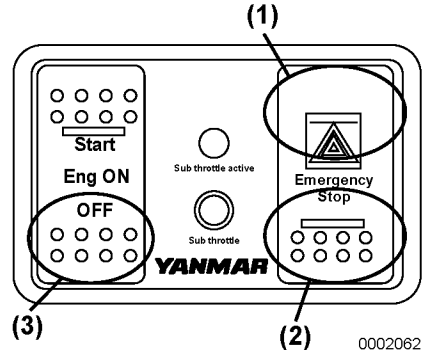

Figure 6
3. Push OFF (bottom half) of Eng ON switch (Figure 6, (3)). The engine shuts down within 2 to 7 seconds normally. The regular engine shutdown takes time because the controller is adjusted in the fuel injection timing to the most suitable position for the next start.
Push the upper part of the Emergency Stop switch (Figure 6, (1)) on the right of the panel and the engine shuts down immediately, without the time lag of regular engine shutdown. After shutdown, push the bottom part of the emergency stop switch (Figure 6, (2)) to be returned to the former position. NOTICE: Use this switch only in an emergency. Under normal circumstances, use the OFF, Eng ON, Start switch (Figure 6, (3)) to stop the engine.